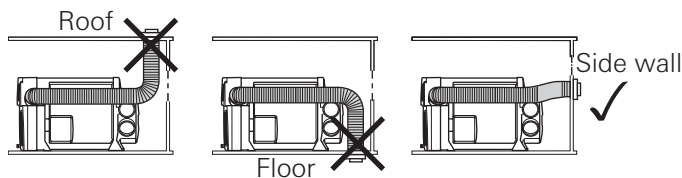

Fig. 7
- The flue gas outlet must not terminate underneath a recreational vehicle. You must install the wall cowl in the side wall; see Fig. 7.